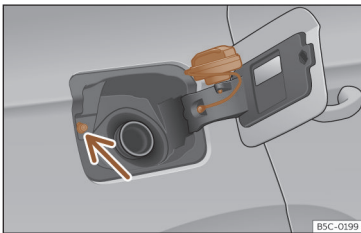

Fig. 201 Fuel tank flap with tank cap attached.
- Place it in the space on the hinge of the open flap >>> Fig. 201.
Avoid touching the fuel tank flap lock button >>> Fig. 201 (arrow). The system will interpret that you have finished and cannot continue refuelling. Press the  button on the driver's door again to continue.